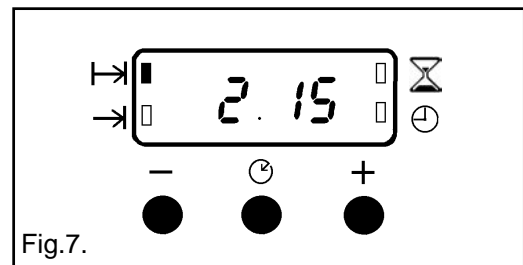

Fig.7.
- iv) To set the length of cooking time, press the Selector Control button until the 'Cook Time' indicator neon ( ⏱ ) is illuminated. Press the increase control ( + ) until the required length of cooking time is displayed, e.g. 2 hrs 15 mins as Fig. 7. If necessary depress the decrease control ( - ) until the correct time interval is achieved.